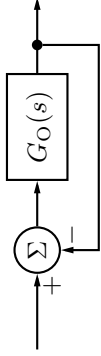

Figure 3.6a
3.6 Draw a root locus with respect to  $K$  for the system in Figure 3.6a, with  $G_o(s)$  given below. For which values of  $K$  are the systems stable? What conclusions on the principal shape of the step response can be drawn from the root locus?